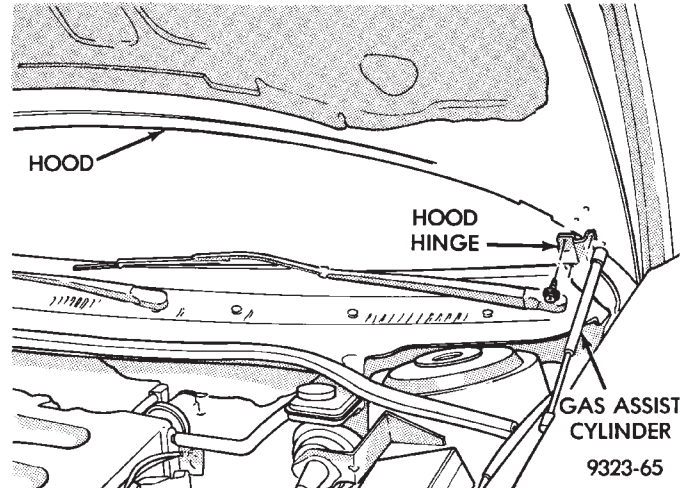

Fig. 6 Hood
- (1) Raise hood to full up position.
- (2) Disengage under hood lamp wire connector from engine compartment wire harness.
- (3) Mark all bolt and hinge attachment locations with a grease pencil or other suitable device to provide reference marks for installation. When installing hood, align all marks and secure bolts. The hood should be aligned to 4 mm (0.160 in.) gap to the front fenders and flush across the top surfaces along fenders.
- (4) Remove the top bolts holding hood to hinge and loosen the bottom bolts until they can be removed by hand (Fig. 6).
- (5) With assistance from a helper at the opposite side of the vehicle to support the hood, remove bottom bolts holding hood to hinge. Separate the hood from the vehicle.